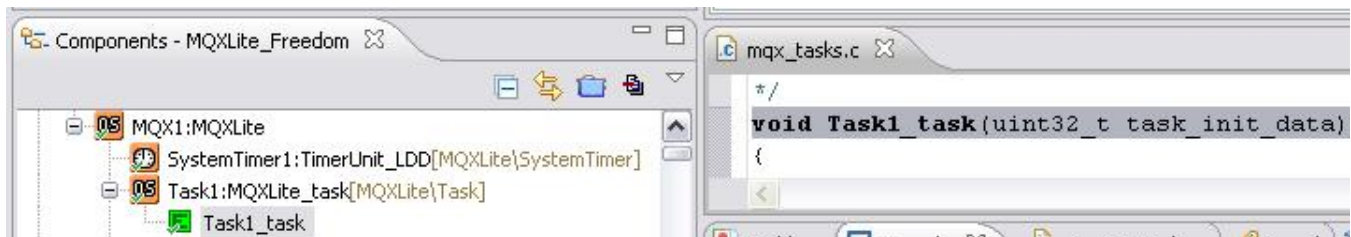

Figure 38. Accessing the MQXLite task source code
1. All the steps must occur in the MQXLite task. Expand the MQXLite component until you reach the Task1_task subcomponent. Double click on it to make the source code appear on the right hand of the screen. Figure 38 is an example of how it looks.